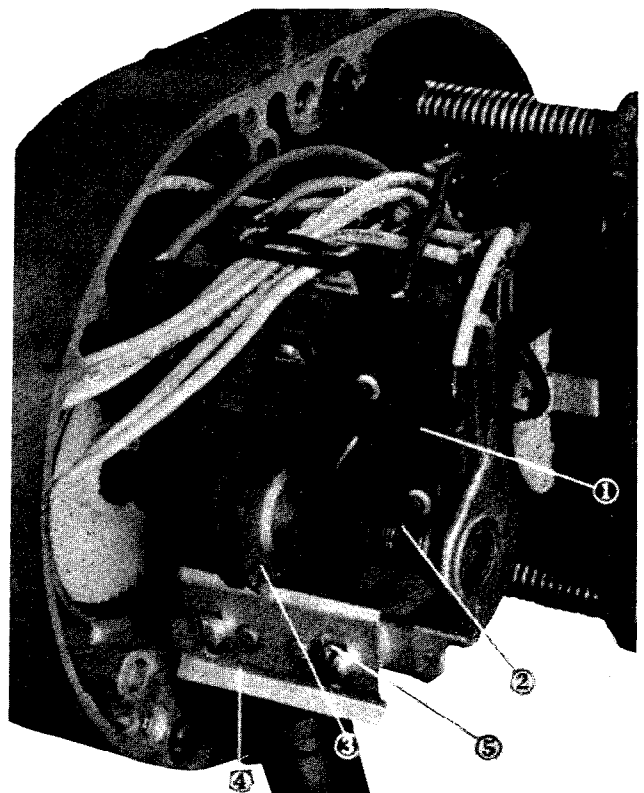

Figure 16. Limit Switches, Models A thru H-2
4. Loosen the screws to permit guide plate to be moved out of engagement with the traveling nuts, refer to Figures 16 and 17.